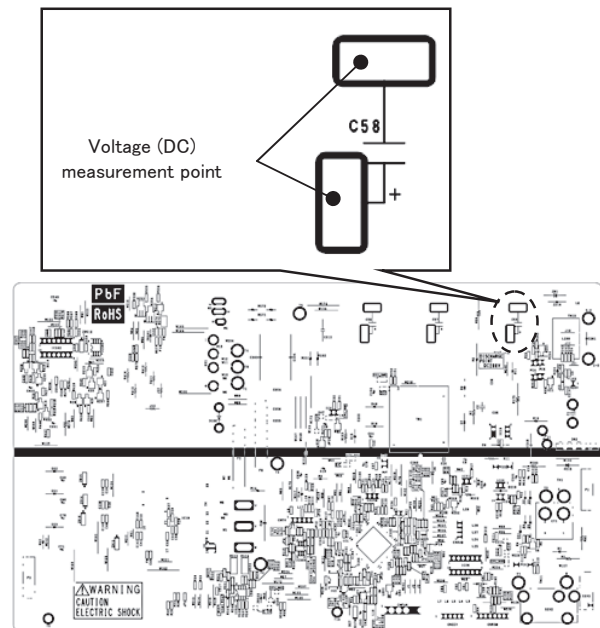

Fig.2 Voltage measurement point (Solder face of PCB (Main))
- 2) Open the lid, and measure DC voltage on both edges of electrolytic capacitor C58 and check that the voltage is discharged sufficiently. (Refer to Fig.2) (Since the capacitor is coated with prevention-of-moisture coating, the voltage may be hard to be measured. Remove the coating before measuring if required, taking care of an electric shock.)